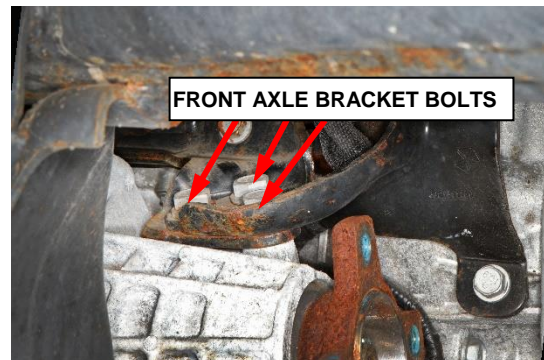

Figure 18 – Bracket at Front Axle
39. Remove the five bolts retaining front axle pinion housing to transmission bracket. Note that the top bolt is longer as it passes through two brackets (Figures 18 and 19).
24. Install the five bolts retaining front axle pinion housing to transmission bracket. Tighten bolts to 110 N·m (81 ft. lbs.) (Figures 18 and 19).